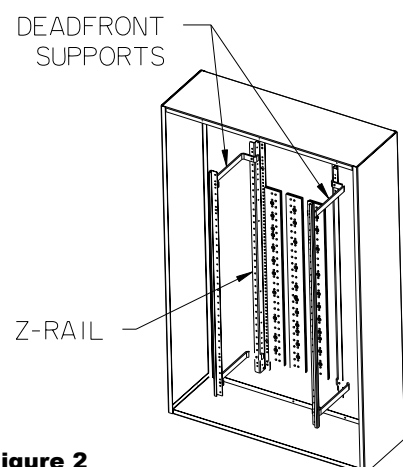
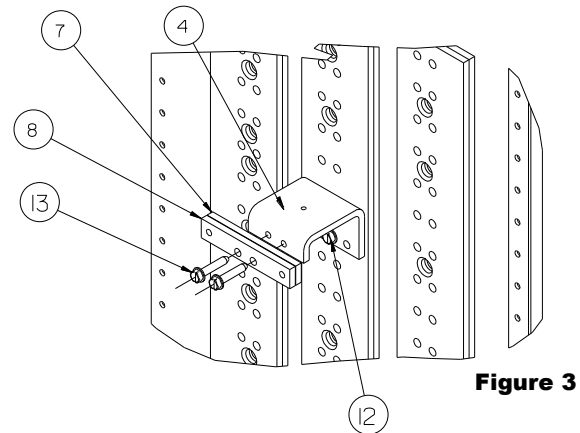
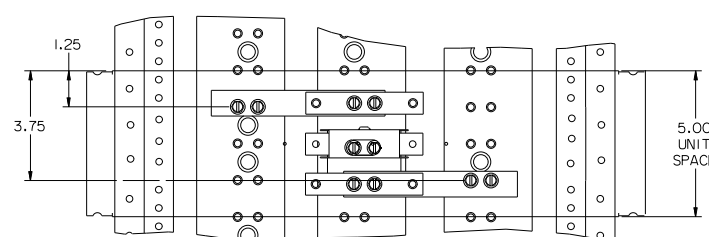
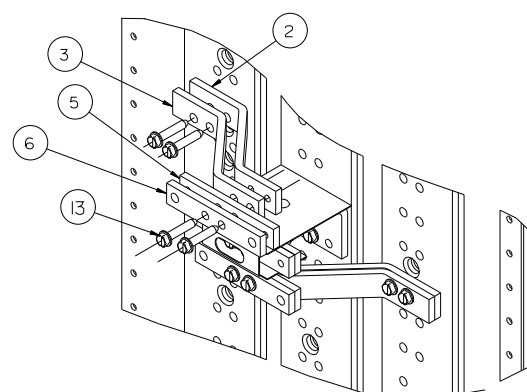

Figure 2
Figure 3
Figure 4
Figure 6
3. Reference fig. 2 - To mount a VL DG Frame breaker, 5" of empty unit space is required. To locate the mounting position, measure from the top deadfront support to the top of the empty unit space filler on the deadfront. Transfer this dimension from the deadfront support along the Z-rail and mark. This will be the unit space as shown in fig. 4. After marking the Z-rail, remove the deadfront.
5. Reference fig. 3 and fig. 4 - The first items to be installed are the B-phase strap and B-phase links (item 4, item 7 and item 8). Note that the 0.281 holes on the B-phase links (item 7 and 8) are offset and are not symmetrical as in A and C-phase links (items 5 and 6). Locate two 0.228" diameter holes on the B-phase of the section bus, 3.75" down from the top of 5.0" unit space selected. Insert two 1/4-20 thread-forming screws (see the mounting hardware kit, item 12, for proper length) through the two holes in the B-phase strap (item 4) and then into the 0.228" diameter holes on the B phase bus and tighten. Orient the B-phase links as shown in fig. 3 with the 0.281 holes located away from the bend on the B phase strap (item 4). To install the B-phase links, insert two 1/4-20X1-1/4" screws (item 13) through two 0.281" holes on B top and bottom links (item 7 and item 8) and then into the 0.228" diameter holes on the B-phase strap and tighten. Torque all screws to the values specified on the rear of the deadfront.
7. Reference fig. 4 and fig. 6 - Locate two 0.228" diameter holes in the A-phase section bus, 1-1/4" down from the top of 5.0" unit space selected. Insert two 1/4-20 thread-forming screws (see the mounting hardware kit, item 12, for proper length) through the two holes in the A-phase straps (item 2 and 3) and then into the 0.228" diameter holes on the A-phase bus and tighten. To install the C-phase strap (item 2 and 3) locate two 0.228" diameter holes on the C-phase section bus 3.75" down from the top of 5.0" unit space selected. Insert two more 1/4-20 screws through the two holes in the strap and then into the 0.228" diameter holes in the C-phase section bus. To install A and C-phase links (item 5 and 6) repeat the installation steps similar to B-phase links installation, orienting the link bars as shown so as to have 1.375" vertically between centers of the link bars. Torque all screws to the values specified on the rear of the deadfront.